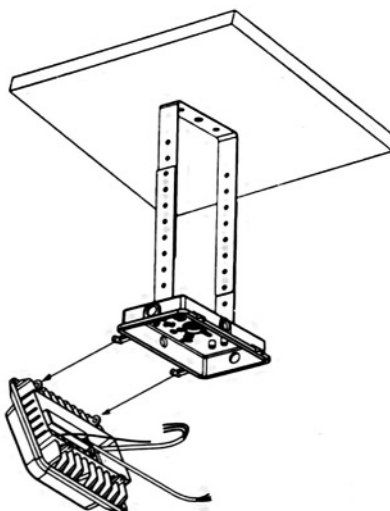

Figure 3-7
7. Insert the mounting hole of radiator horizontally on the shaft of driver cover; Figure 3-7